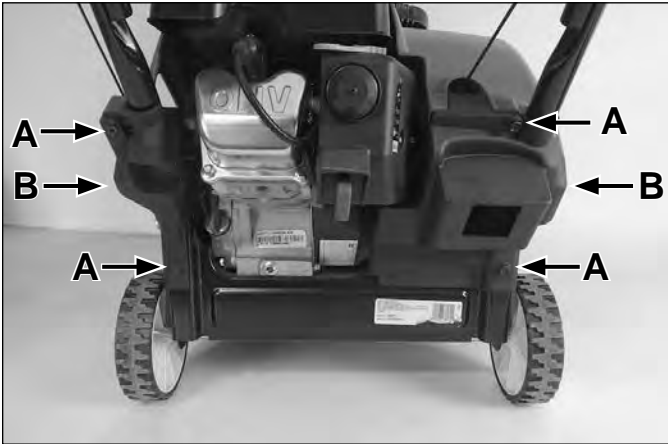

Fig. 014
1. Remove key from ignition. Remove the screws securing the lower shrouds (A). Remove the right and left lower shrouds (B) (Fig. 014).